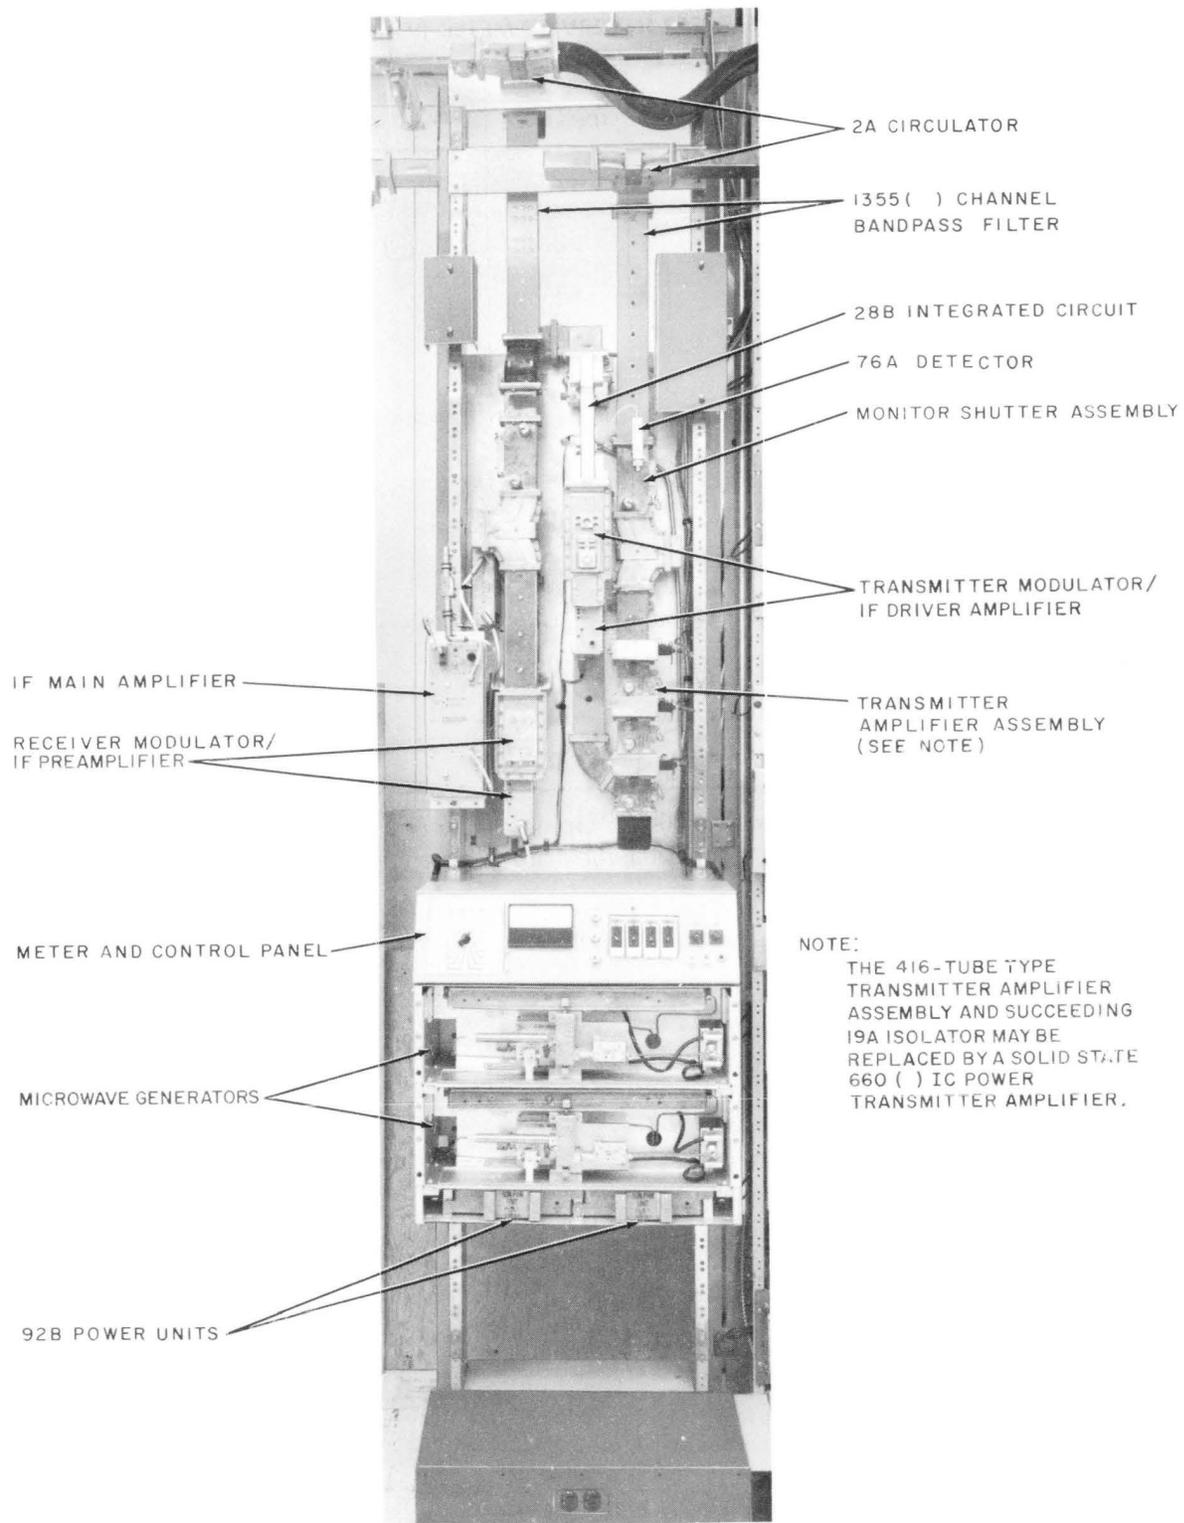

Fig. 1—J68386M Main Station Bay
- 1 On the meter panel (see Fig. 1 and 2), rotate the selector switch so that the meter indicates, one at a time, the circuits designated for the TRMTR. Compare each meter indication with the requirement for the applicable function shown in Table A.
The following is a check of the frequency of the microwave generator. Repeater station bays use a single generator for both the transmitter and receiver. Main station bays provide separate generators for the transmitter and receiver. For location of the microwave generators, see Fig. 1.